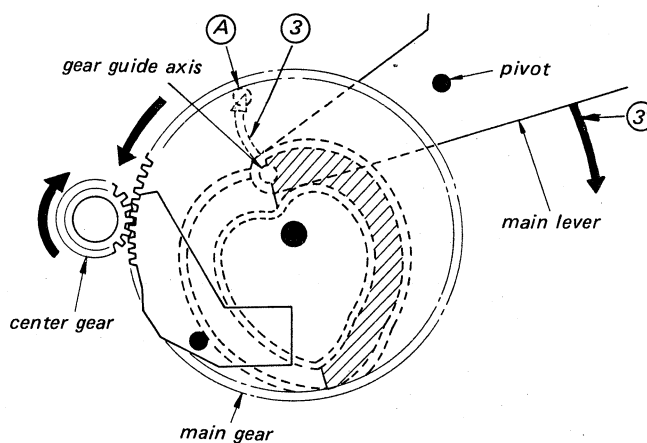
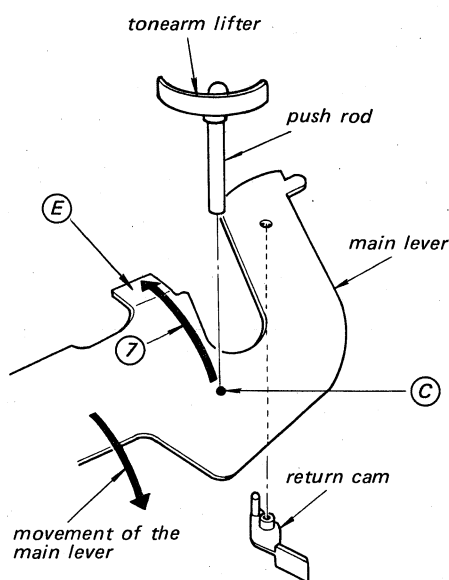
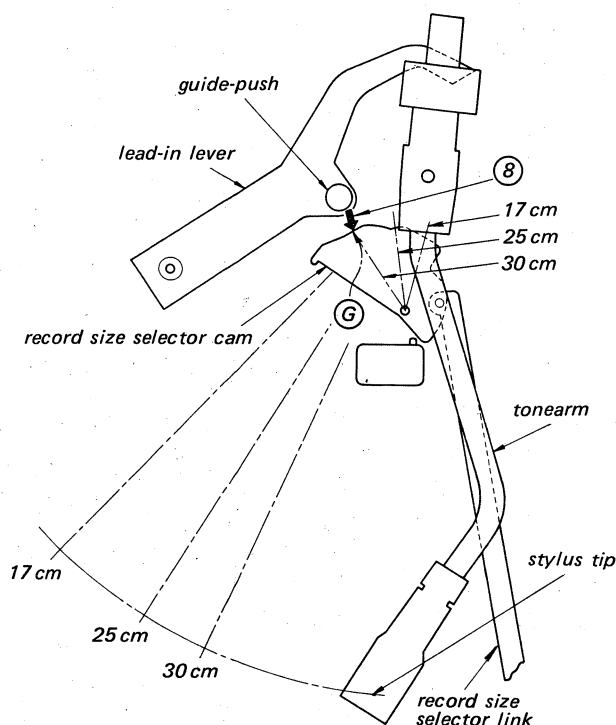
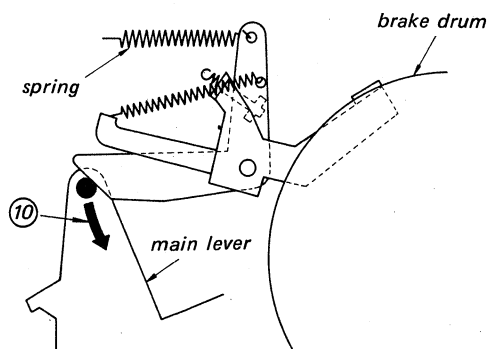

Fig. 3-3.
Fig. 3-5.
Fig. 3-6.
Fig. 3-8.
4. The gear guide axis at the tip of the main lever, is guided by the shaded section of the heart-shaped cam groove located on the main gear, moving across in a curved path ③ to position A. Therefore, the main lever moves in the direction of arrow ③. (See Fig. 3-3.)
1. The central axis of the push rod resting against the tonearm lifter is on the position (C) in STOP mode. (See Fig. 3-5.)
2. During lead-in, the main lever moves across in the direction of arrow (3') (See Fig. 3-3), resulting in the position of the central axis of the push rod moving across as shown by arrow (7). (Fig. 3-5.)
3. The guide-push stops at the position determined by the surface (G) (Fig. 3-6) of the record size selector cam. The push rod consequently descends to position (E) (Fig. 3-5), resulting in the tonearm lowering onto the surface of the record for the commencement of play.
4. The position where the tonearm lowers (30 cm, 25 cm, 17 cm) is determined by the position of the record size selector cam shown in Fig. 3-6. The guide-push of the lead-in lever moves across in direction of arrow (8) during lead-in; and meets the size selector cam at surface (G) (for the 30 cm example shown), thus determining the drop point at the outer edge of a 30 cm record. That is, this position determines the distance moved by the lead-in lever, which consequently determines the rotational angle of the brake drum (and of the tonearm as well).
5. The return cam attached to the main lever (see Fig. 3-5) pushes against the pin of the brake drum, forcing the tonearm to move back (horizontally) towards the arm rest.
6. The return operation is completed when the tonearm arrives back at the arm rest. The main gear comes to a stop in the position shown in Fig. 3-3.
Furthermore, a spring is also employed to exert pressure upon the main lever in the direction of arrow ⑩ (see Fig. 3-8), thus keeping the main gear in the stop position. (See Fig. 3-3.)